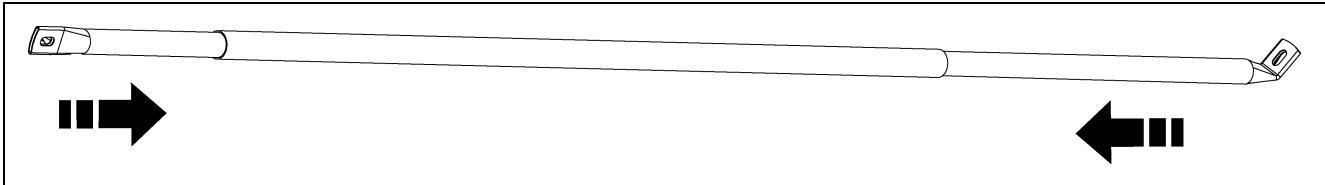
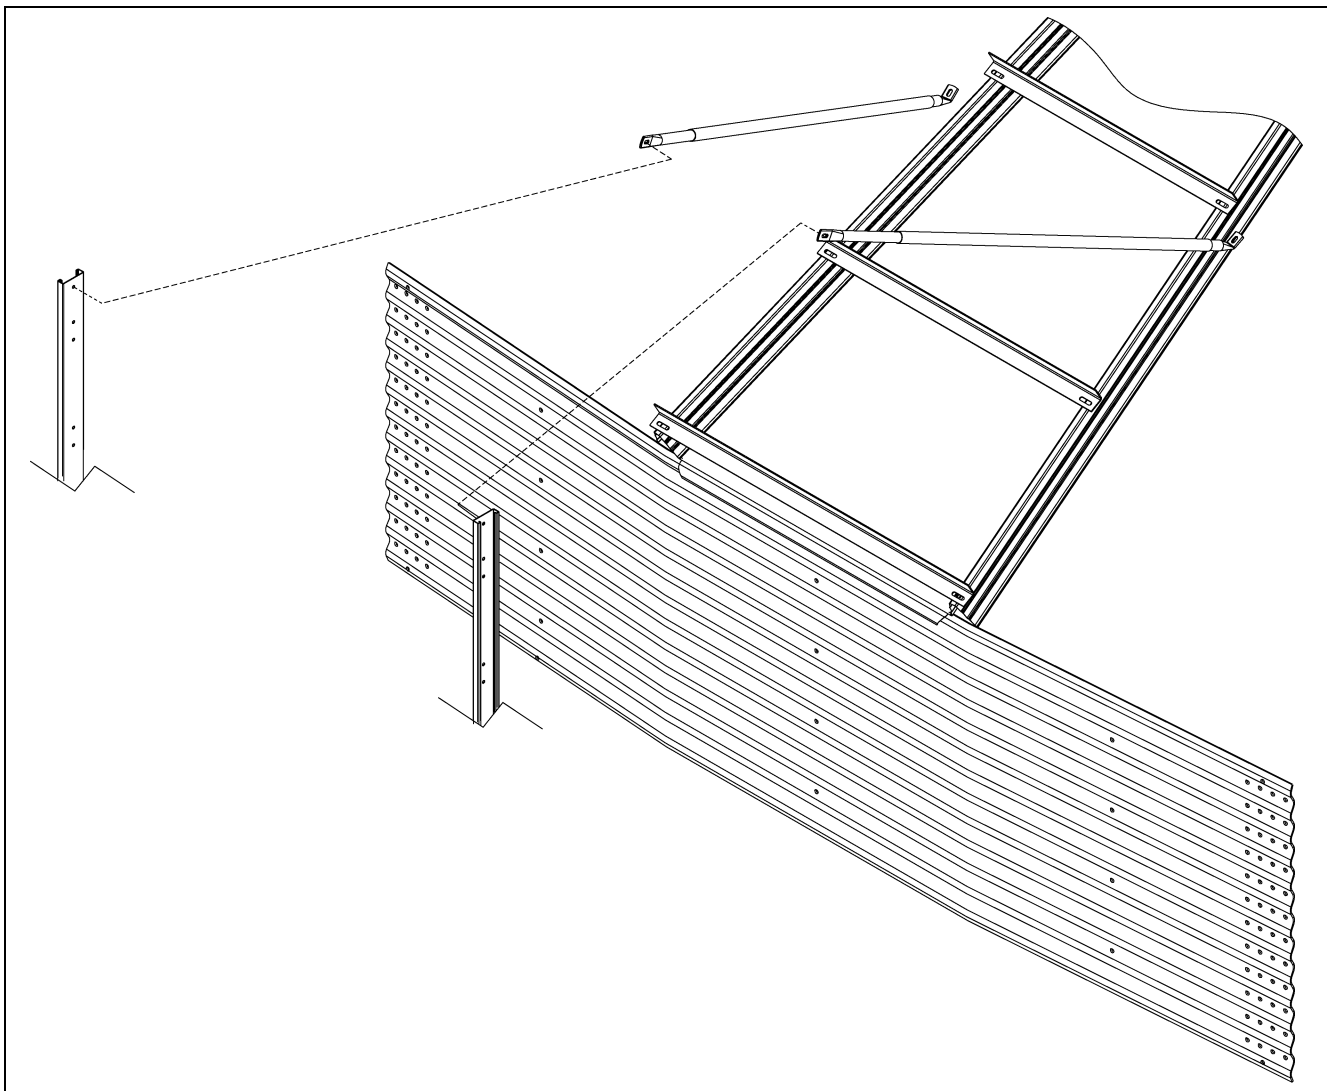

Figure 8F
Figure 8G
The eave adjustable braces must be attached at this time. An eave adjustable brace is comprised of one (1) larger diameter tube and two (2) smaller tubes. (See Figure 8F.) Slip the smaller tubes inside the larger tubes and attach one (1) smaller tube to the top of the ladder extension rail. Adjust the other smaller tube so the bottom of the flattened tube reaches the roof panel. Field drill four (4) 5/16" holes through both large and small tubes and bolt together using 1/4" x 1-1/2" bolts and nuts. This prevent the adjustable braces from slipping. (See Figure 8G.)